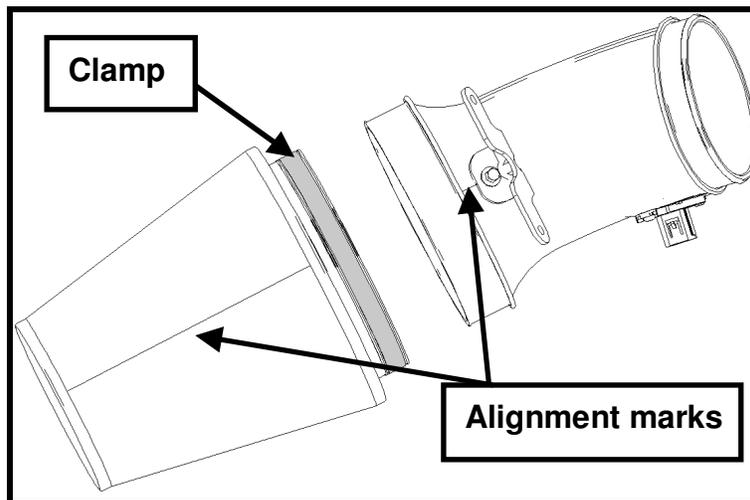

Fig. 6
- STEP 3:** Install the air filter (R07060131) to the clean air tube and torque the worm drive clamp to 3 Nm (26 lb in). **NOTE:** Align the metal strip on the air filter with the alignment mark on the clean air tube (See Fig. 6).